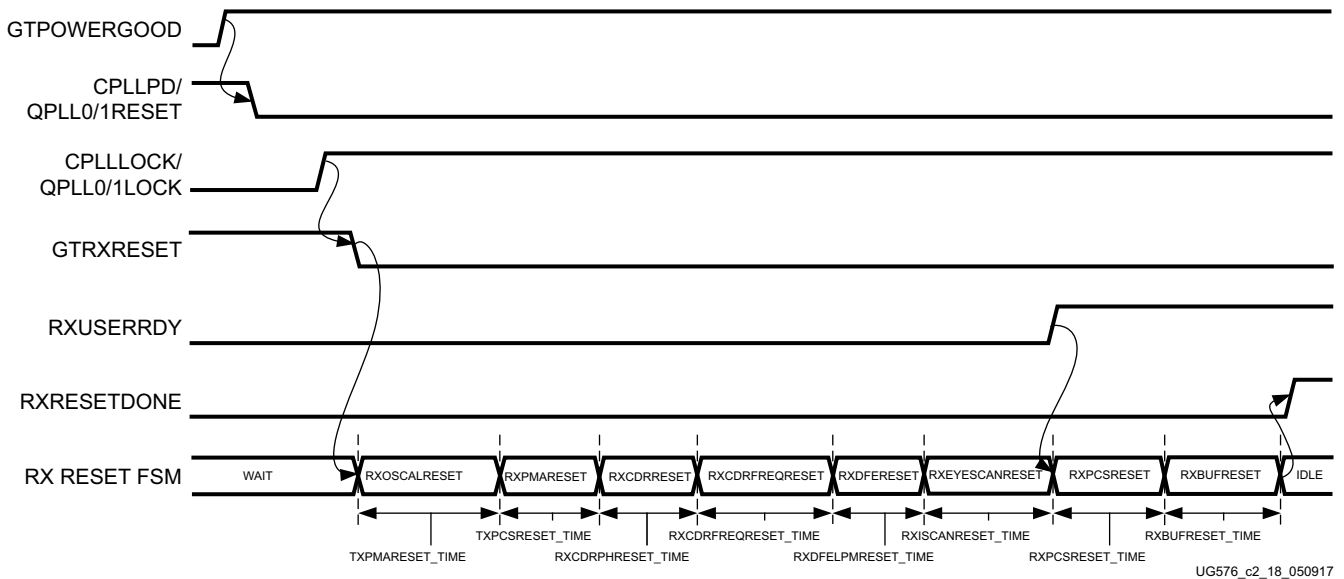

Figure 2-25: GTH Receiver after Configuration
3. Assert CPLLDPD or QPLL0/1RESET and GTRXRESET following the reset sequence described in Figure 2-25.
RECOMMENDED: Use the associated PLLLOCK from either the CPLL or QPLL to release GTRXRESET from High to Low as shown in Figure 2-25. The RX reset state machine waits when GTRXRESET is High and starts the reset sequence until GTRXRESET is released Low.